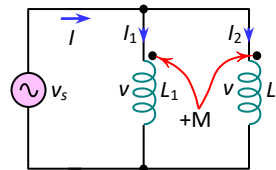
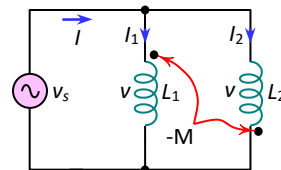

Fig.1-63: Parallel connected inductors
Fig.1-64: Parallel connected inductors
Depending of the direction of flux, the mutual inductance can increase or decrease the equivalent inductance. In case of series connected inductance the coupling process is explained using the flux direction. But in case of parallel connections, this is represented using **dot notation**. Mutually coupled parallel coils can be shown as either connected in an aiding or opposing configuration by the use of polarity dots or polarity markers as shown in Fig.1-63 and 1-64.
If one of the two coils was reversed with respect to the other, we would then have two parallel inductors with opposing mutual inductance ( $M$ ) as shown in Fig.1-64.
The values of two mutually coupled inductors are  $L_1 = 5$  H,  $L_2 = 8$  H. If they are connected like i) Fig.1-63 and ii) Fig.1-64 determine the equivalent inductance. Assume,  $M_{12} = 1.5$  H.
i) When the inductors are connected as in Fig.1-63, the mutual inductance will be additive. Therefore,
ii) When the inductors are connected as in Fig.1-64, the mutual inductance will be subtractive. Therefore,